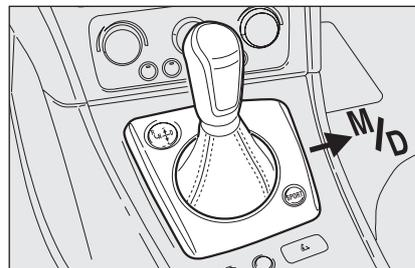

fig. 7
- move the gear lever to central position (between **+** and **-**) to engage the 1st gear, or to **R** to engage reverse keeping the brake pedal pressed. If in manual operating mode, move the gear lever to **M/D** (fig. 7) to engage the automatic operating mode;